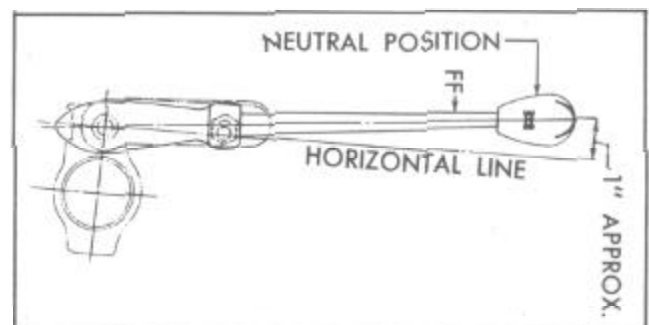

FIGURE 31
Adjust length of remove control tube to bellcrank rod assembly (38) so that when in neutral, the end of the gear shift lever is approximately 1" above a transverse horizontal line, Figure 31.